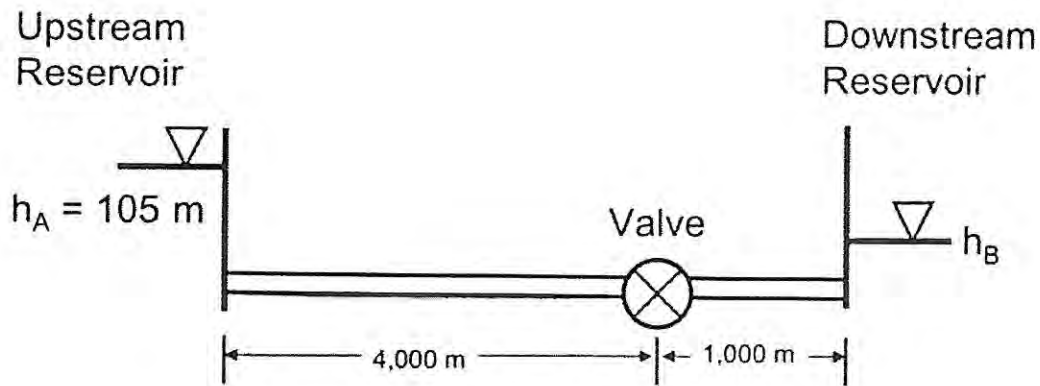

Figure 2. Schematic of water transmission system.
2. A transmission pipeline that conveys water from an upstream reservoir to a downstream reservoir is indicated below in Figure 2. The transmission main has a valve along its length that controls the discharge in the system. The discharge through the valve is computed with the valve equation below. The pipeline has a length of 5,000 m, a Hazen-Williams 'C' factor of 120, and an inner diameter of 450 mm. The upstream reservoir has a water level of 105 m. The valve discharge constant is $E_s = 0.45 \text{ m}^{5/2}/\text{s}$.